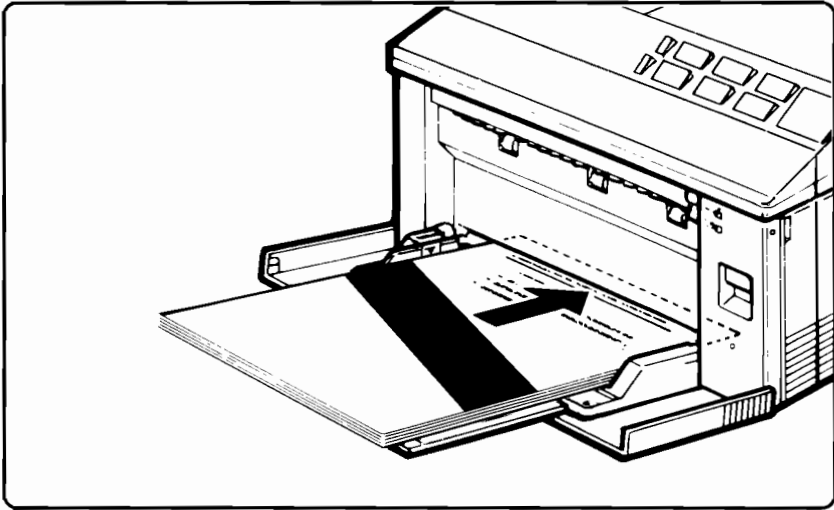

Figure 4-2. Loading the Cleaning Paper
6. Place the Cleaning Paper face-up in the MP Tray. The blank side of the Cleaning Paper should be face-down in the tray (see Figure 4-2).